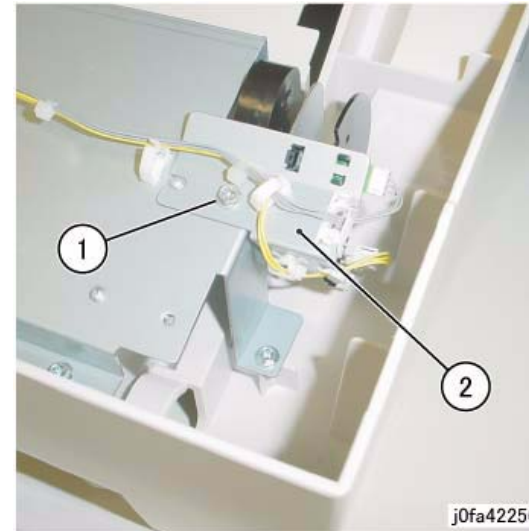

Figure 5 Removing the Stacker Sensor Assembly
10. Remove the Stacker Sensor Assembly (Figure 5):